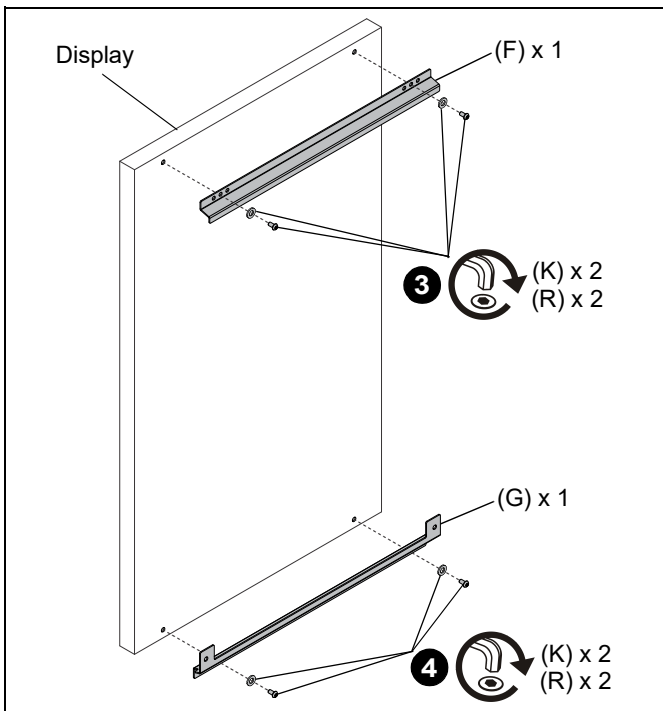

Figure 13
3. Install the upper bracket (F) along the top edge of the display using two M8 x 16mm screws (K) and two 8mm washers (R). (See Figure 13)
4. Install the lower bracket (G) along the bottom edge of the display using two M8 x 16mm screws (K) and two 8mm washers (R). (See Figure 13)